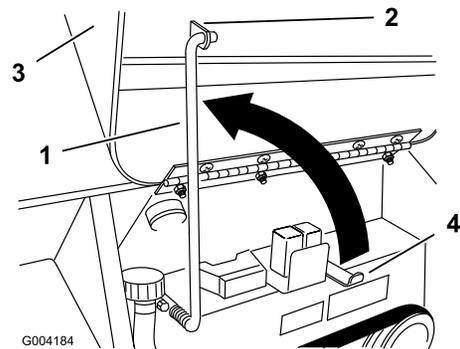

Figure 26
4. Swing the prop rod up and secure it in the bracket on the hood (Figure 26).